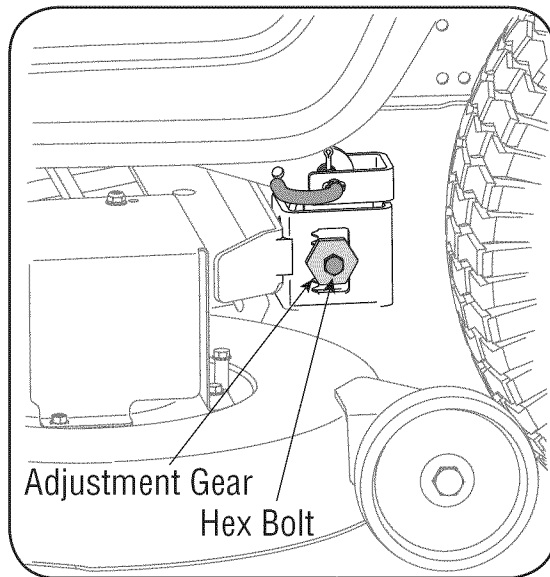

Figure 15
3. Loosen, but do NOT remove, the hex cap screw on the left deck hanger bracket. See Figure 15.